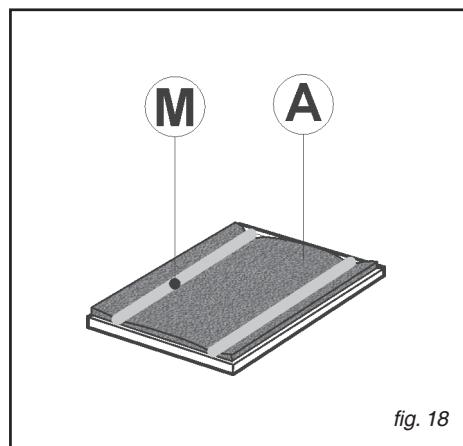

fig. 18
• **Replacing the charcoal filters (Fig.18)**